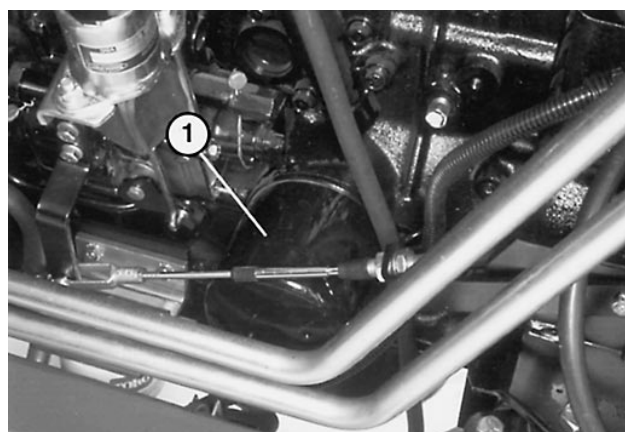

Figure 36
3. Remove the drain plug and allow oil to drain into the pan. Remove and replace the oil filter (Fig. 36); refer to the parts catalog for the replacement number. Apply a coating of oil to the filter O-ring and tighten the filter by hand.